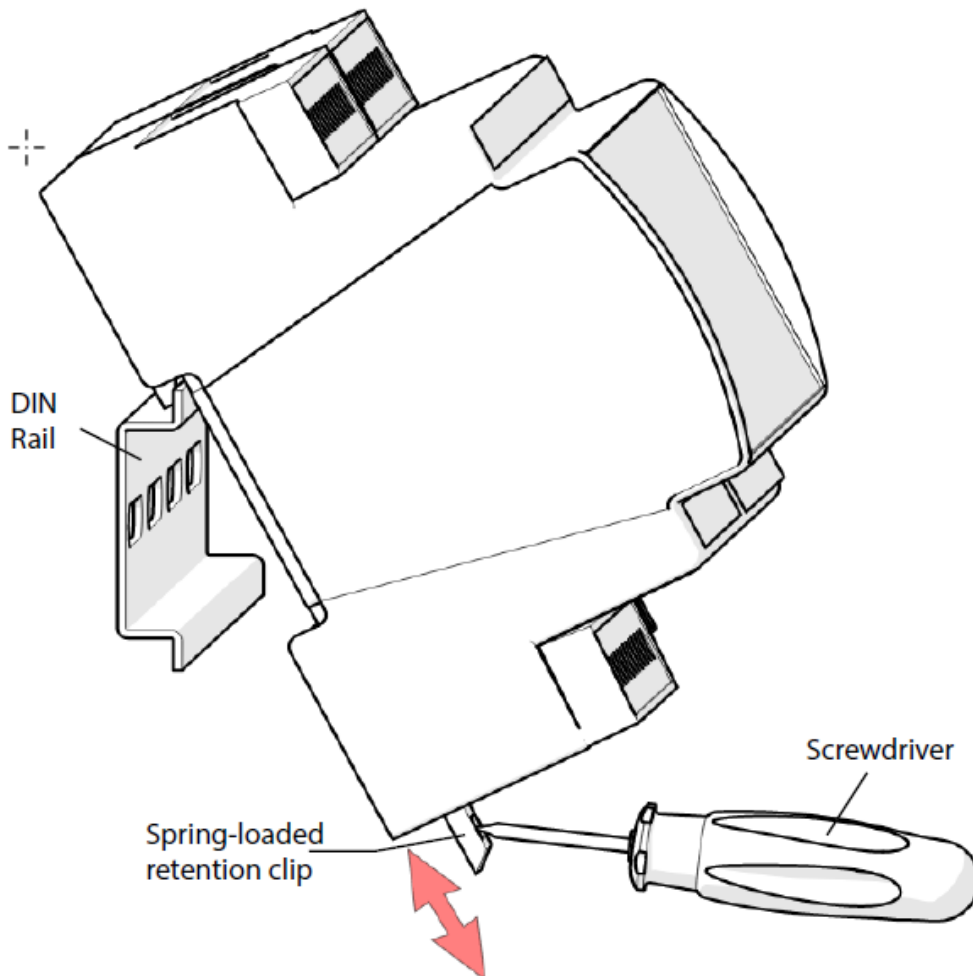

Figure 6. Engage the DIN rail and pull the retention clip
- 1. Engage the slot at rear of unit to the upper edge of DIN rail. Refer Figure 6.